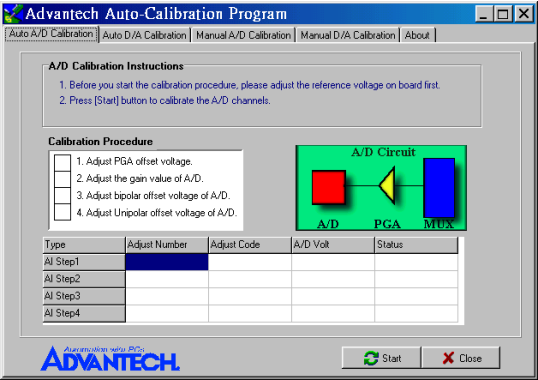

Figure 5-6: Auto A/D Calibration Dialog Box
Step 4: Click the *Auto A/D Calibration* tab to show the A/D channel auto-calibration panel (Fig. 5-6). Press the start button to calibrate A/D channels automatically.